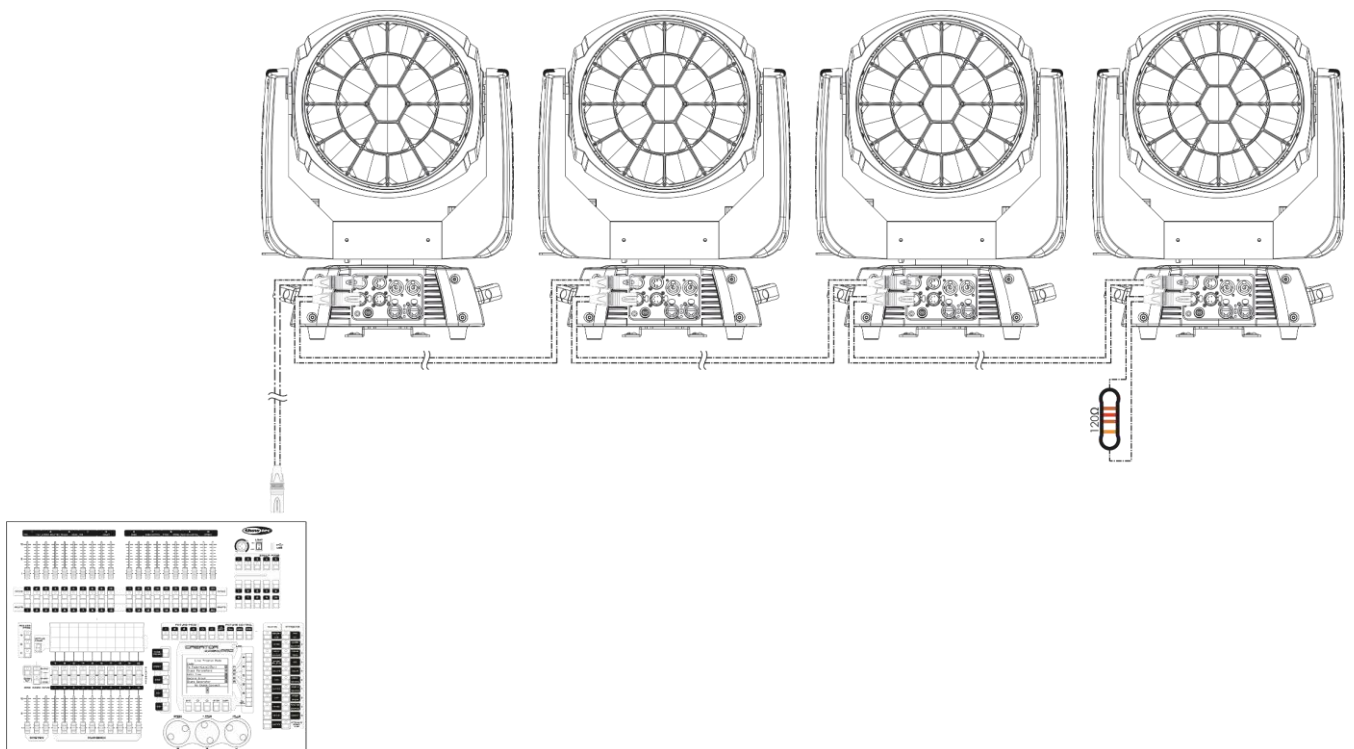

Fig. 06
- 05) Link the units as shown in fig. 06. Connect a DMX signal cable from the first unit's DMX "out" socket to the second unit's "in" socket. Repeat this process to link the second, third and fourth units.
- 05) Link the units as shown in fig. 06. Connect the first unit's RJ45 "out" socket with the second unit's "in" socket, using a CAT-5/CAT-6 cable. Repeat this process to link the second, third, and fourth units.